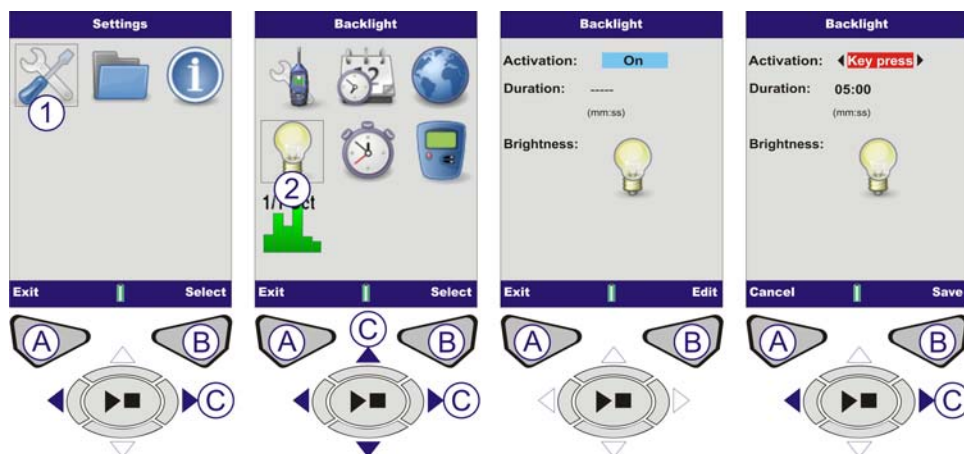

Figure 7 Set Backlight (Sheet 1)
E. SET BACKLIGHT (Refer to Figure 7)